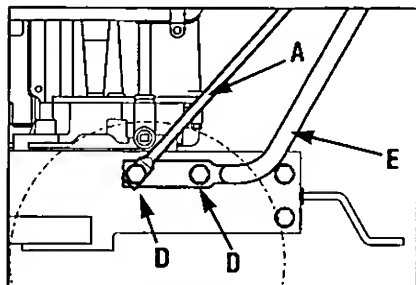

Figure 2-2B: Attach handlebars and bottom of struts to engine deck.
2. Remove and save two 5/16" screws securing ends of handlebars to engine deck. To free handlebars from shipping position, raise the two handlebar struts (A, Figure 2-2B) to a 45° angle. From front of machine, tilt right-side handlebar up over engine air cleaner and then lift other handlebar upward. Rotate handlebars over engine and position bottom of handlebars against sides of deck (see E, Figure 2-2B).
NOTE: Four screws (D, Figure 2-2B) are used to connect the handlebars to the engine deck. The screws thread into lock nuts welded to the back sides of the deck.
4. Swing the struts to 45° forward. Align the handlebar ends (E, Figure 2-2B) with the holes in the engine deck. Install two 5/16" hex flange screws (D, Figure 2-2B) into the rear holes and tighten.
5. Position both struts (A, Figure 2-2B) so the ends are aligned over the front holes in the handlebar ends. Secure the struts and handlebars with two 5/16" hex flange screws. Tighten all four screws. Tighten nuts "C."